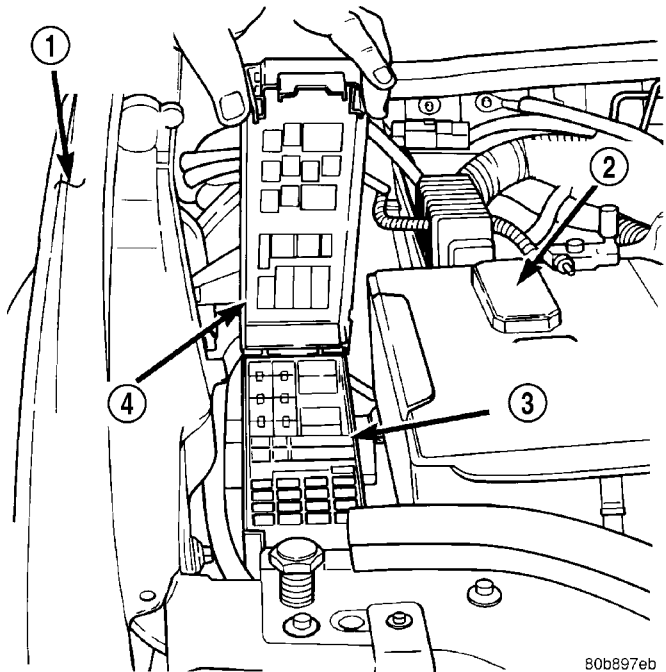

Fig. 3 Power Distribution Center
- (1) Disconnect and isolate the battery negative cable.
- (2) Remove the cover from the Power Distribution Center (PDC) (Fig. 3).
- (3) See the fuse and relay layout label affixed to the underside of the PDC cover for horn relay identification and location.
- (4) Remove the horn relay from the PDC.